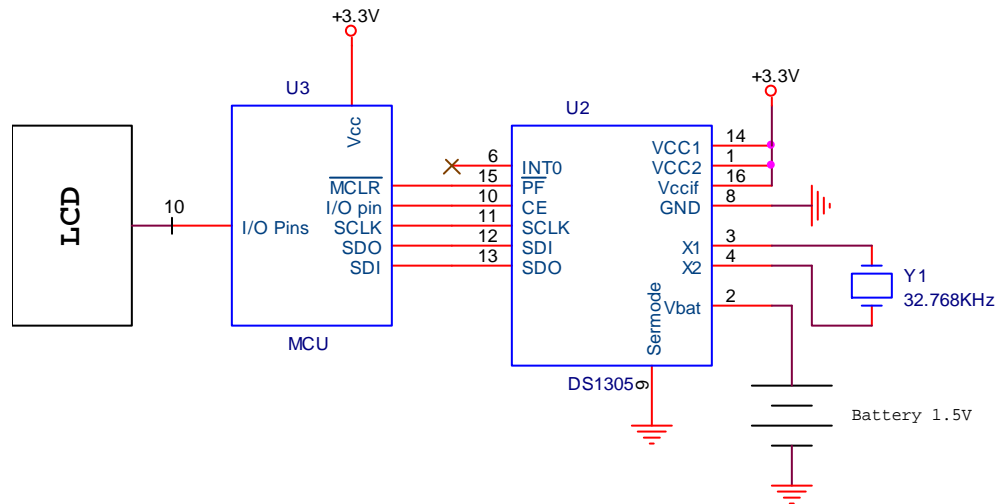

Figure 5: DS1305 Connection.
1. Connect an RTC DS1305 to the SPI pin of your MCU, as illustrated in Figure 5. The DS1305 is a real-time clock-calendar chip that communicates with the MCU via SPI (Serial Peripheral Interface), a form of synchronous serial protocol. Data sheets for the DS1305 are available at <http://datasheets.maxim-ic.com/en/ds/DS1305.pdf>